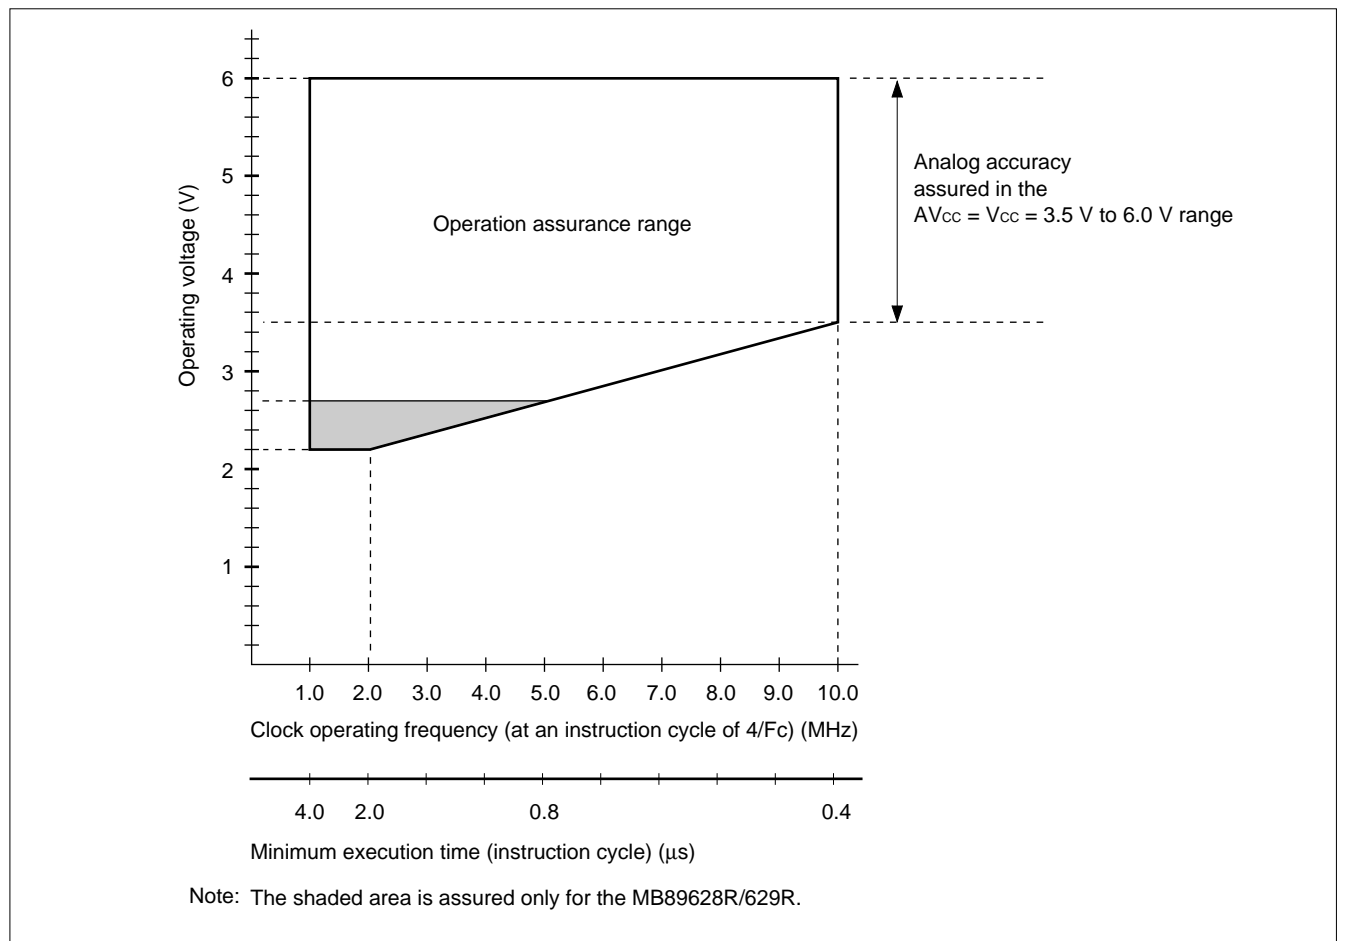

Figure 1 Operating Voltage vs. Clock Operating Frequency
* : These values vary with the operating frequency and analog assurance range. See Figure 1 and "5. A/D Converter Electrical Characteristics."
Figure 1 indicates the operating frequency of the external oscillator at an instruction cycle of $4/F_c$.